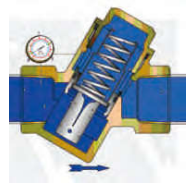

Figure 1
• Acting as a simple orifice plate, the valve plug will fully open when  $\Delta P$  across the valve is below its control range. This allows the flow rate increases with the growth of  $\Delta P$  (Figure 1).